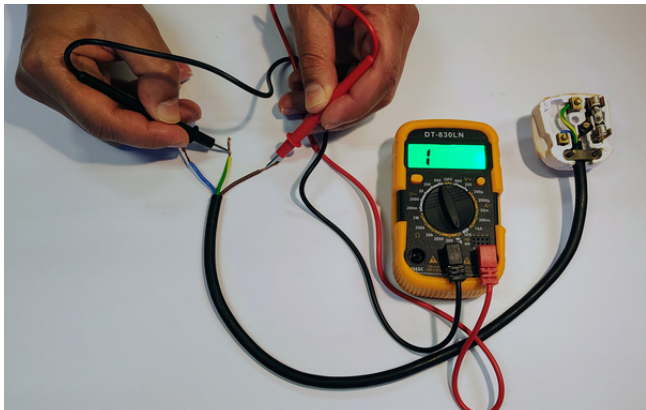

Figure 8
2. Touch the other probe to the earth wire as shown in **Figure 8**.